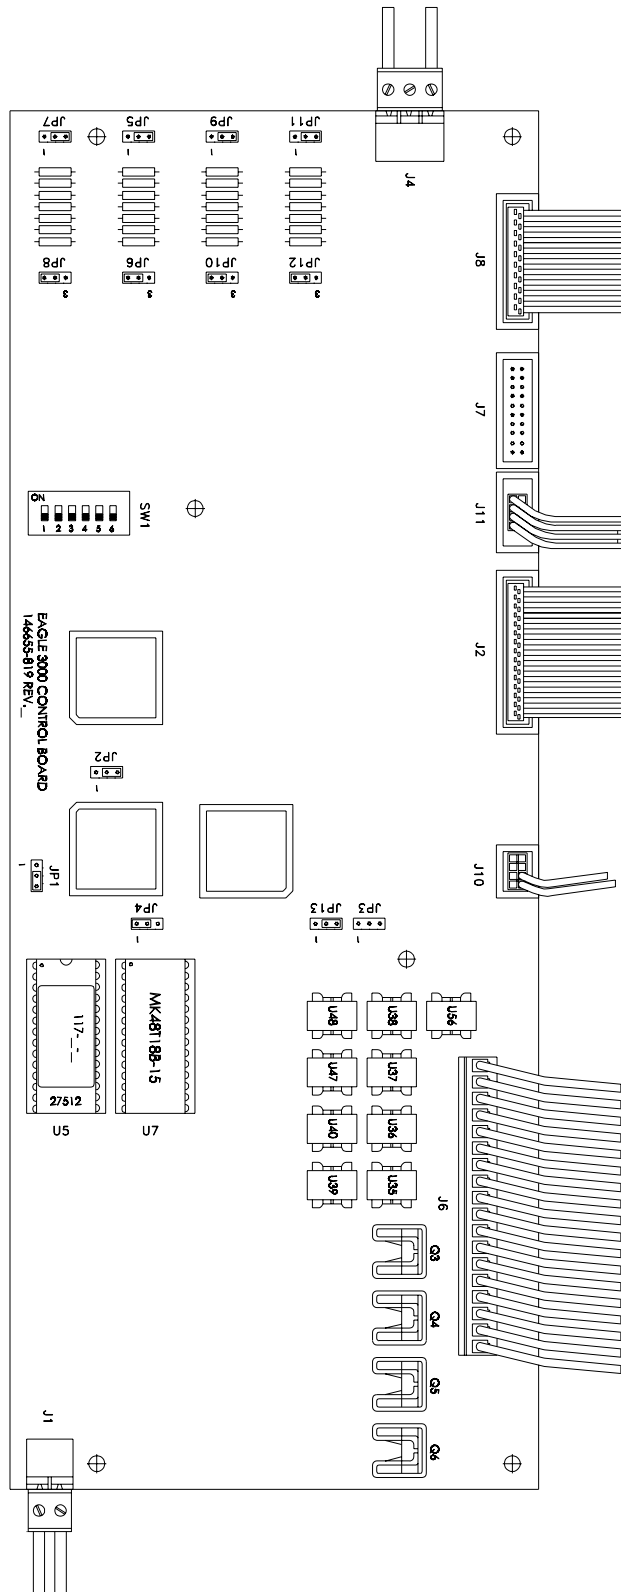

Figure 5-2. Control PC Board Jumper Setting
6. Locate Dip switch emplacement (SW1) on Control PC Board (see Figure 5-2).